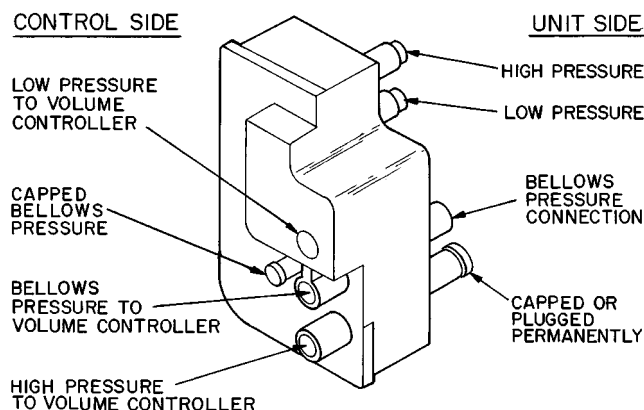
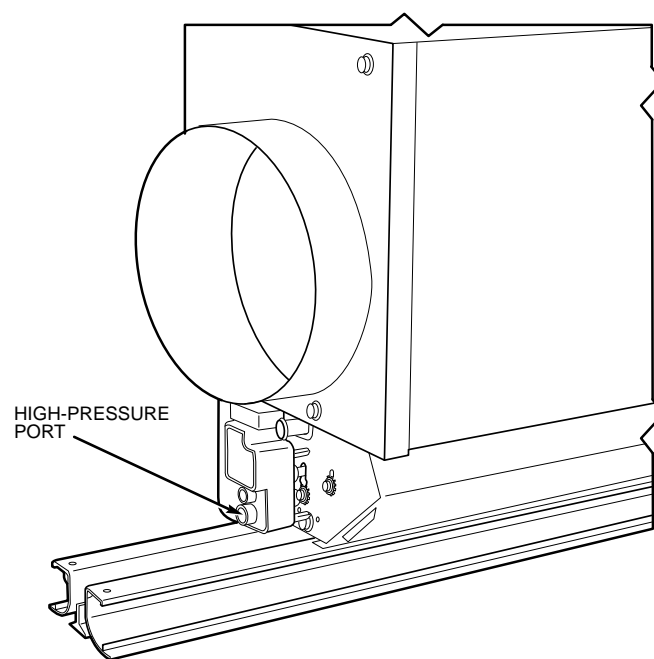

Fig. 6 — Filter/Manifold Connections
Fig. 7 — Control Filter Installed
4. To prepare the control filter for installation, be sure that the bellows chamber filter plug is pushed tightly into the correct connection. Figure 6 shows the connection ports on both sides of the filter. The lower bellows port on the unit side and the small slave bellows pressure connection on the control side should be capped or plugged before installation. Moisten the 2 O-rings with water, then push the filter into the unit end block until the standoffs rest on or close to the unit end plate. See Fig. 7.
4. To prepare the control filter for installation, be sure that the bellows chamber filter plug is pushed tightly into the correct connection. Figure 6 shows the connection ports on both sides of the filter. The lower bellows port on the unit side and the small slave bellows pressure connection on the control side should be capped or plugged before installation. Moisten the 2 O-rings with water, then push the filter into the unit end block until the standoffs rest on the unit end plate. See Fig. 7.